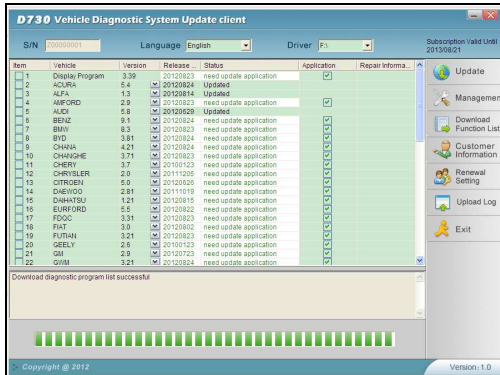

Fig.2-9 Software installation screen
- (1) Take out the SD card from D730 main unit;
- (2) Put the SD card into SD Card reader;
- (3) Connect the Card-Reader to PC USB port;
- (4) Select the SD card driver on the top-right side of software installation screen as shown in Fig.2-9;
- (5) Click the button **[Update]**, the selected programs already downloaded to your PC hard drive will be installed on SD card automatically.